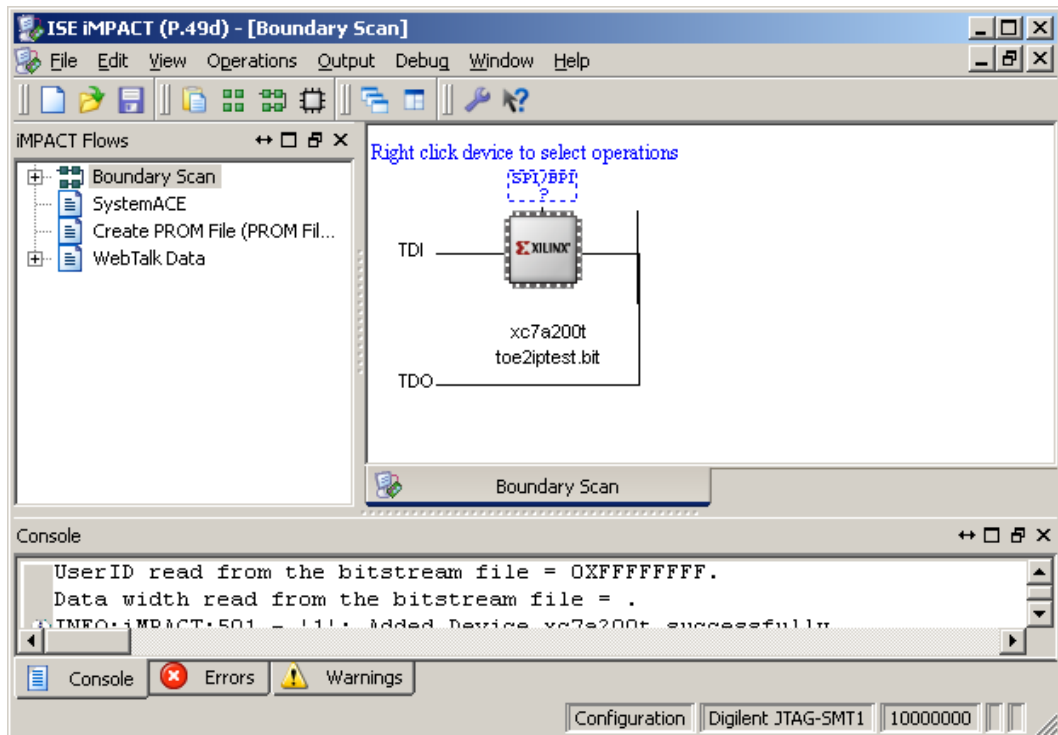

Figure 4-5 Programmer Environment
- 7) Open Xilinx programmer (iMPACT or Vivado) and download bit file to FPGA development board, as shown in Figure 4-5.